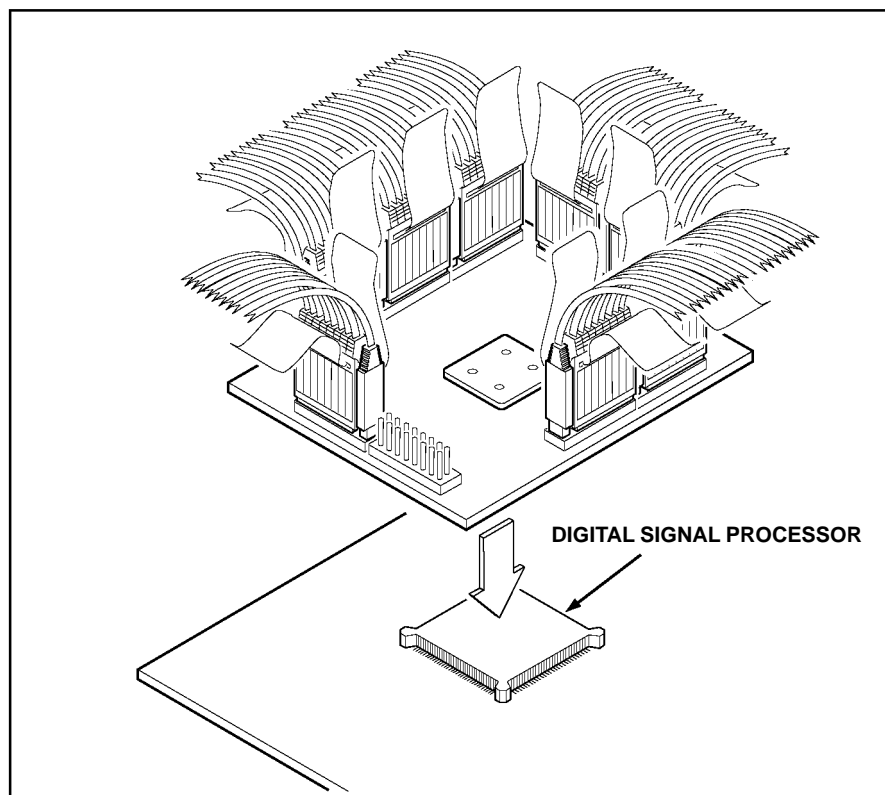

Figure 2-4. Placing a typical PQFP probe adapter onto the SUT.
- Place the probe adapter onto the SUT as shown in Figure 2-4.